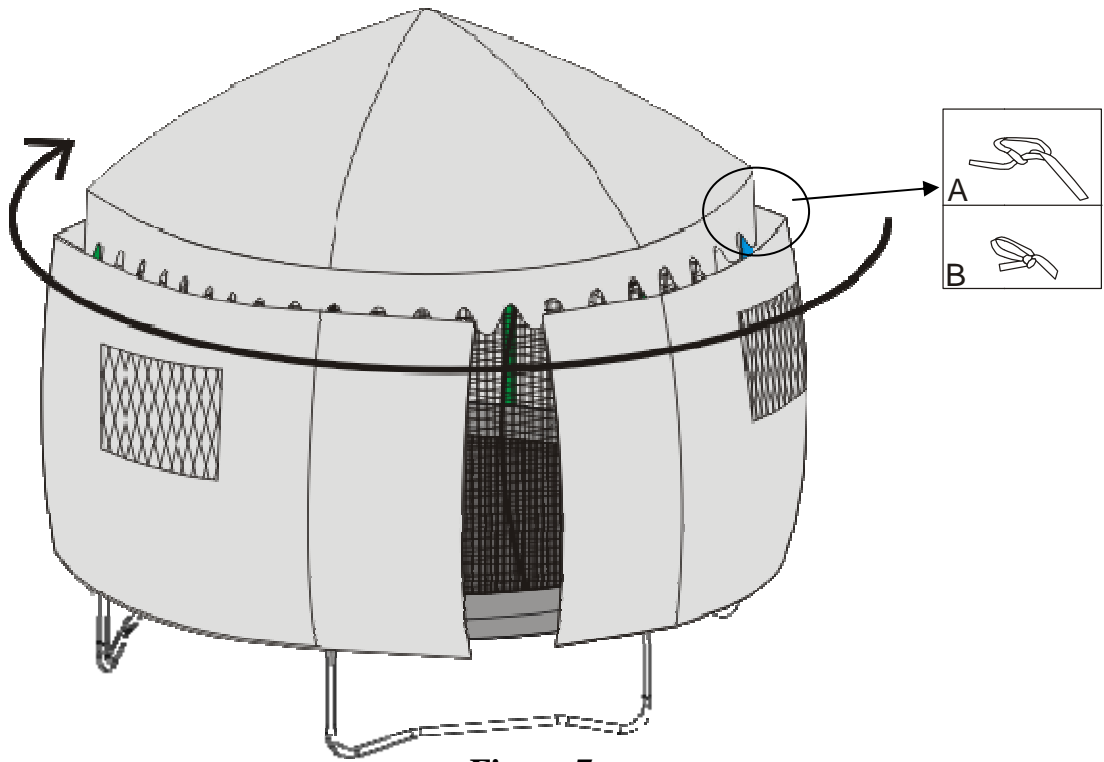

Figure 7
Step 6: Put the knot A in 4 &knot B in 10 link together, then connect circle around (See figure 7).